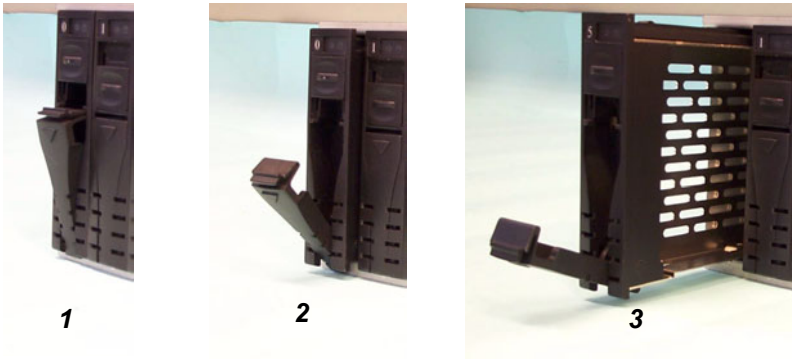

Figure 5.5: Removing the mobile tray
3. Press down the handle of the mobile tray and pull it out as far as it will go. Then completely take out the tray (Refer to *Figure 5.5*).